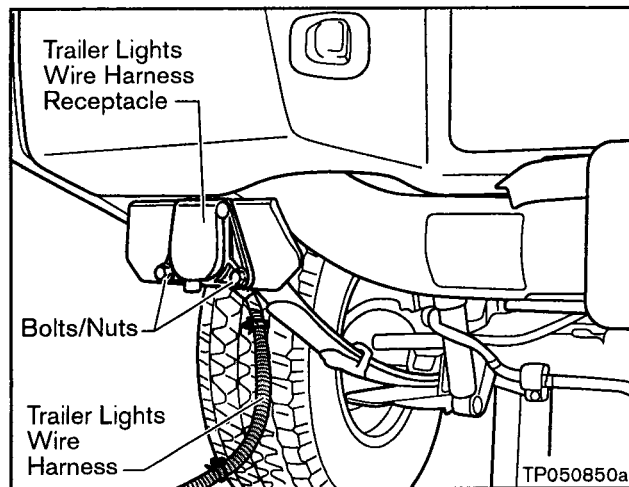

Figure B9
- c. Install the Trailer Lights Wire Harness Receptacle to the Tow Hitch. Use the two Bolts/Nuts already installed in the receptacle (see Figure B9).